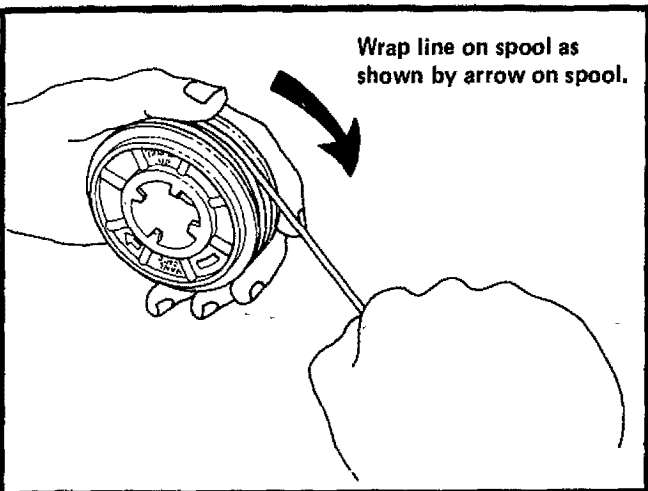

Figure 20
- Replace a worn spool with a new pre-wound spool for quick easy replacement. Or as an alternative, replace nylon line on existing, usable spool. To replace line, insert 1/16 to 1/8 inch of the end of the line through the hole in the spool. Wrap the line evenly onto the spool in a clockwise → direction as shown by arrow on spool. Figure 20.